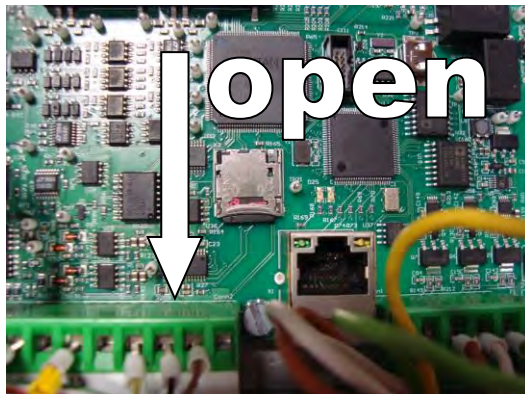

Figure 14
3. Insert the micro SD card in the interface box into the SD Card slot. Please note that it is hinged, and therefore it should be pulled back (white arrow) before it can be lifted upwards (fig. 14)